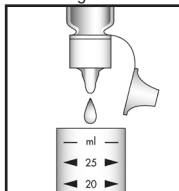

Figure 2
- Add 12 drops of S-2000 Activator Solution (fig. 2). Stir to mix the contents of the cup. Wait **3 minutes**.